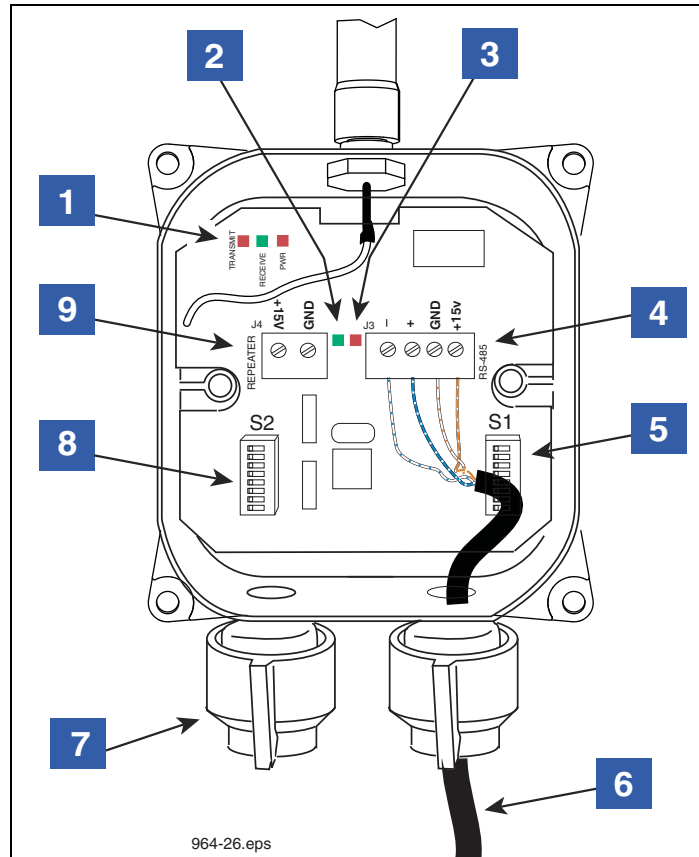
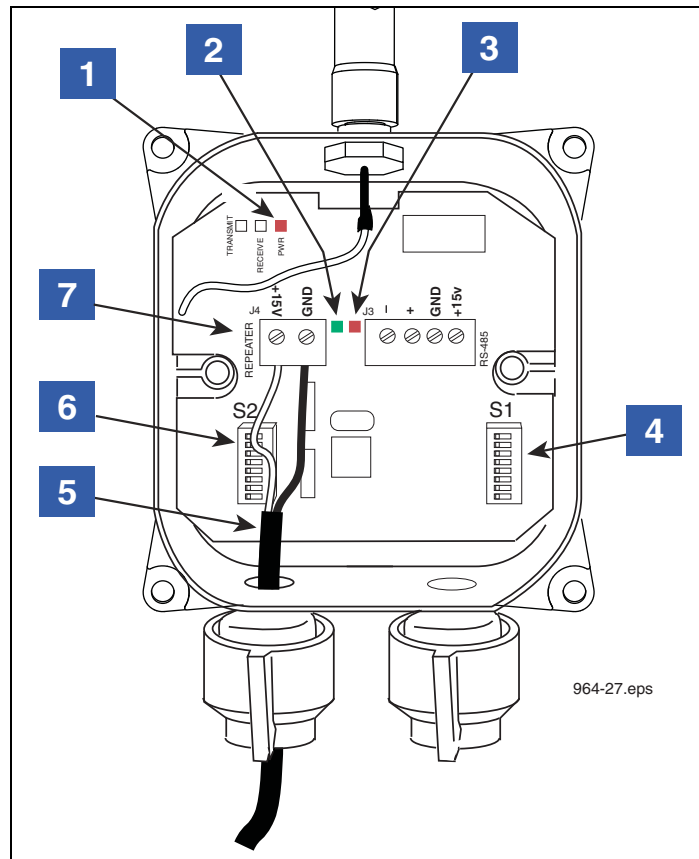

Figure 32. Wiring The Receiver
Figure 33. Wiring The Repeater
6. Note that there are two twisted pair color-coded wires in the cable (e.g., a white with blue stripe and blue with white stripe pair and a white with orange strip and orange with white stripe pair). One of the pairs is for RS-485 communication (- & + terminals) and the other pair is for Receiver power (+15 Vdc & Gnd). Using Figure 32 as a guide, attach the wires of the two twisted pairs to the RS-485 terminals.
8. If a Repeater is used and powered by the Receiver, push the two wire power cable (to Repeater) through the +15 Vdc cord grip of the Receiver (item 7 in Figure 32).
10. Attach the dc power cable (white to +15 Vdc and black to GND) to the Repeater terminal block (item 9 in Figure 32).
**LEGEND FOR NUMBERED BOXES IN Figure 32**
- 7. A solid bushing must be installed to seal the Receiver when this cord grip is unused. In sites where a Repeater is powered from the Receiver, the Repeater’s power cable enters through this cord grip and attaches to the Repeater terminal block (item 9).
- 9. +15 Vdc power source for the Repeater. If used, connect two wires from item 9 connector in Receiver to item 7 connector in Repeater, see Figure 33.
1. Use of a single repeater is optional but may improve system performance when installed correctly. The Repeater should be located closer to the device transmitters to rebroadcast messages to the Receiver. Use the 15 Vdc power source provided in the Receiver to power the Repeater, or use a customer supplied non-interruptible, Class 2, 15 Vdc power source. The most common method of powering the Repeater power is to use the Repeater power terminal block J4 in the Receiver (see item 9 in Figure 32).
4. Note the cover of the Repeater indicates the cord grip to be used for the cable connecting the Repeater to its dc power source (item 5 in Figure 33). Remove the cover of the Repeater and set it aside.
6. Connect the 2-wire dc power cable to the Repeater terminal block, white to +15 Vdc and black to GND (see item 7 in Figure 33).
9. The other end of the Repeater's dc power cable connects to the Receiver's +15 Vdc output terminal (ref. item 9 in Figure 32), or to a non-interruptible, Class 2, 15 Vdc power source.
**LEGEND FOR NUMBERED BOXES IN Figure 33**
- 5. DC Power input cable (from Receiver [item 9 connector - see Figure 32], or dc power source)